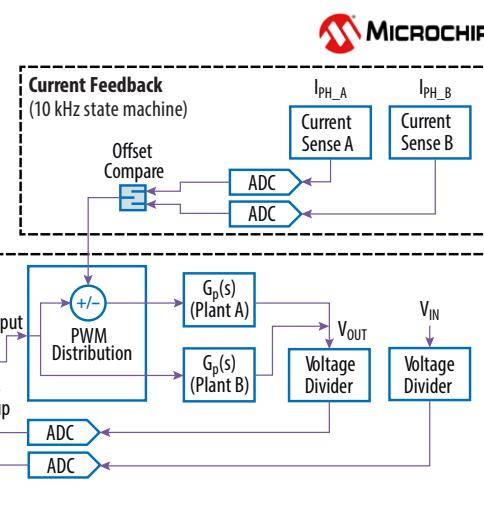

Figure 15. Interleaved buck converter advanced voltage mode control
• Adaptive Type IV Voltage Mode Control (AVMC) with featuring Adaptive Gain Control (AGC) and Phase Current Balancing PWM Steering (figure 15): The second, alternative firmware is tailored to intermediate bus converter module applications in power distribution networks (PDN). The major focus of this firmware lies on reducing PDN segment decoupling capacitance by maximizing the control bandwidth and the output impedance tuning capabilities, enhancing system robustness while minimizing cost.